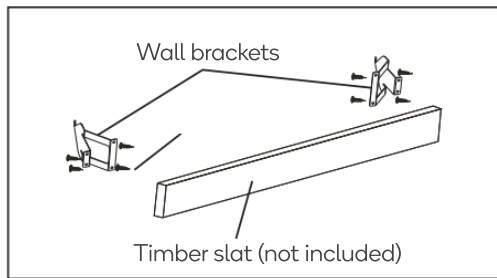

Figure 2
3. Use the x4 25mm screws to attach the x2 wall brackets to the timber slat (Figure 2).